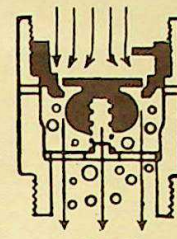

Fig. 1
2. A simple, rugged, self-cleaning mechanism prevents the MEL-O-FLO COOLANT-AERATOR from clogging, by purging the aerator of chips and sludge, enabling uninterrupted machining. The self-cleaning feature is very helpful on any machine tools which do not have a filter in their coolant supply line. The self-cleaning operation occurs automatically whenever the coolant supply is turned off and on. See Figs. 1 and 2.